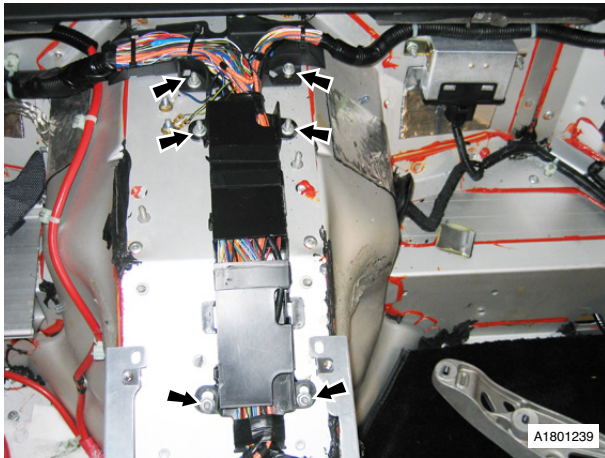

Fig. 24
60. Remove nuts (x7) harness to tunnel (see Fig. 24).